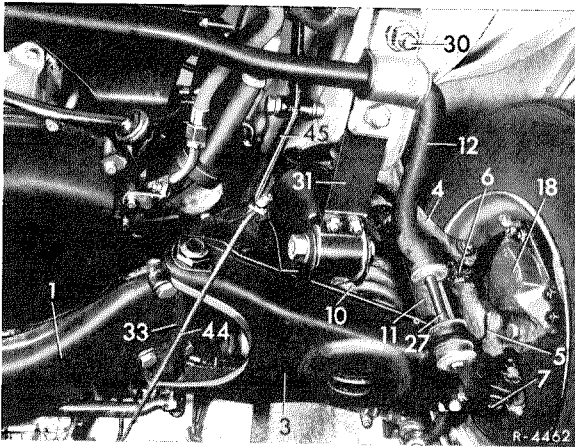

Fig. 32-5/1
- 2 Loosen torsion bar connecting linkage (27) on lower control arm (Fig. 32-5/1).